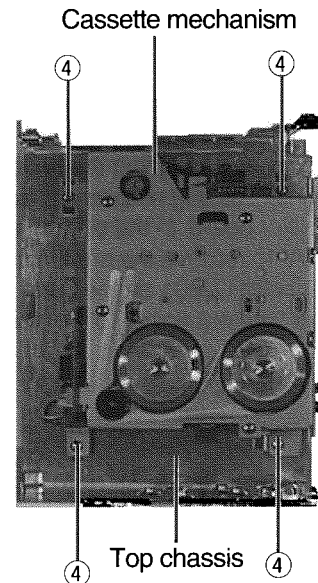

Fig. 8
■ Removing the Cassette Mechanism (See Fig. 8)
5. Remove the four screws ④ retaining the cassette mechanism.